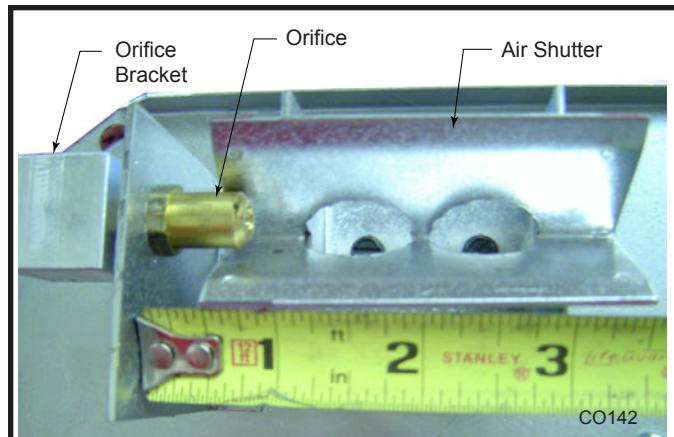

Fig. 82 The air shutter setting is 1/2" (13 mm) from the orifice bracket to the edge of the air shutter.
5. The air shutter is factory set according to table on Page 7 and should not need adjustment. The air shutter opening may be verified by measuring as shown in Figure 82.